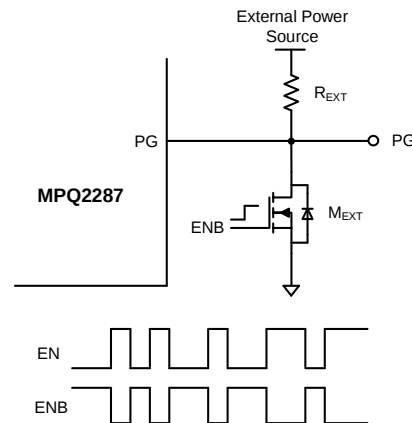

Figure 3: Recommended External Circuit for PG
The power good (PG) indicator is an open-drain output that indicates whether V_{OUT} is within the PG thresholds. PG can be connected to VCC through an external resistor (e.g. 100k Ω). When using the VCC pin as a pull-up voltage source, PG is at a low level when the part is disabled and $EN = 0V$. When using pull-up voltage sources other than VCC, an external circuit should be added to ensure that there is a low PG level when the part is disabled and $EN = 0V$ (see Figure 3). The pin asserts (pulls low) if V_{OUT} is outside of the PG thresholds, the output is off, or if soft start/shutdown occurs. PG can also be configured to indicate thermal warning or PMBus interface communication failures via the OTP.